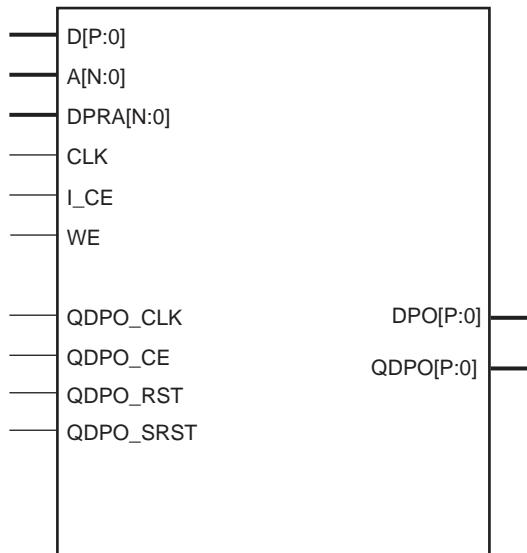
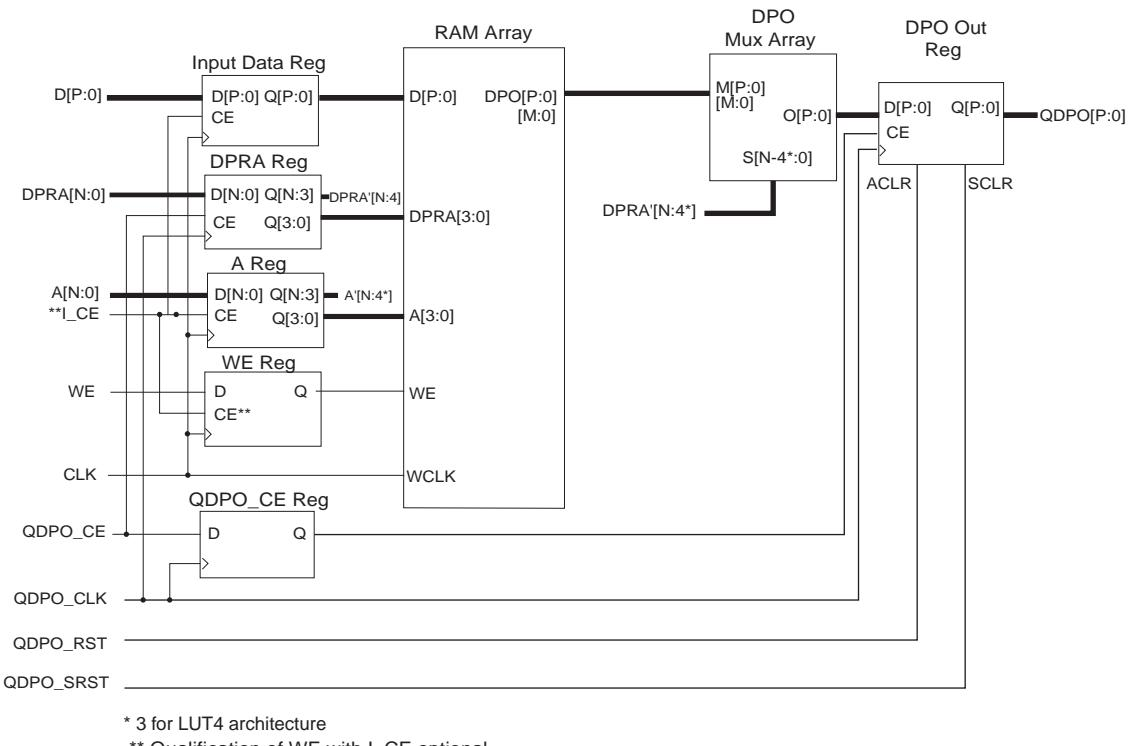

Figure 9: Simple Dual-Port RAM Schematic Symbol
Figure 10: Simple Dual-Port RAM Module Schematic
Writes to the distributed simple dual-port RAM are synchronous to the clock (CLK). However, read operations from the distributed simple dual-port RAM can be asynchronous or synchronous with respect to either of the two clocks (CLK or QDPO\_CLK). Figure 9 illustrates the simple dual-port RAM schematic symbol, showing the relevant ports. Figure 10 shows the internal implementation of the distributed simple dual-port RAM. If a pipeline register is added to a registered core (not illustrated), the additional register is re-timed into the DPO MUX array.
- **Simple Dual-Port RAM.** Figure 10 is a schematic of the structure of the simple dual-port RAM modules. The address and data registers are optional (controlled by the setting of the Input Options parameter). The simple dual-port read address register is optional (controlled by the setting of the Simple Dual-Port Address parameter). Output registers for both output ports are also optional (controlled by the setting of the Output Options parameter).